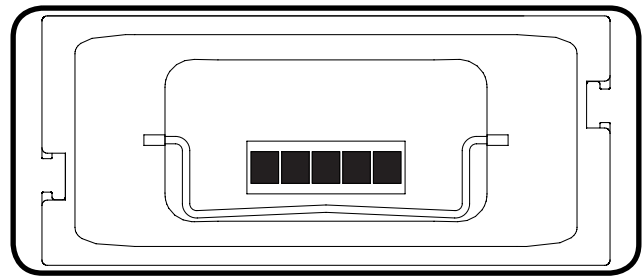

Figure 12
The battery has an LCD fuel gauge located on the end of the battery. This fuel gauge displays five (5) bars when fully charged. Each bar represents twenty percent of the battery's capacity (Figure 12).